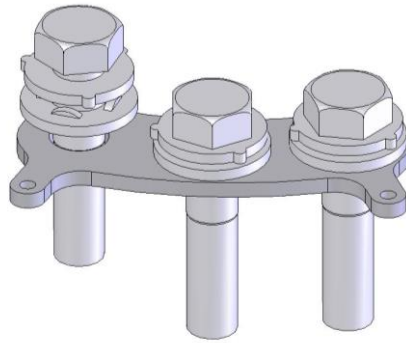
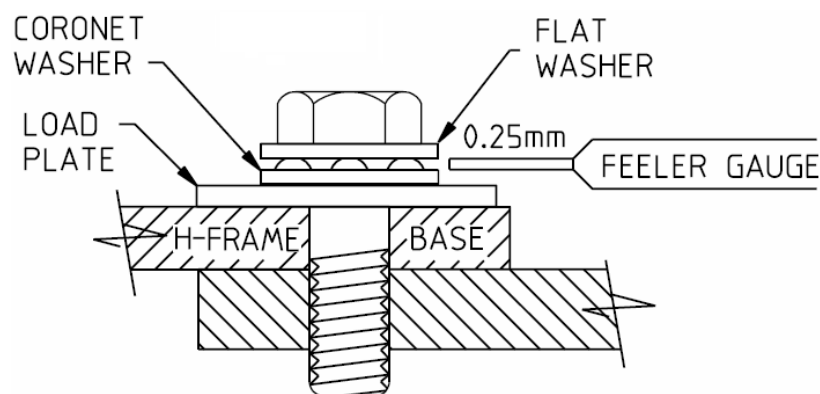

Figure 4.4.1 Coronet washer must be placed between flat washer and load plate
Figure 4.5.1 A feeler gauge must be used to confirm the correct gap size of 0.25mm.
- With the lifting slings still in place, fit the nine M16 high tensile bolts (grade 10.9) flat washers, coronet washers & load plates loosely. The coronet washer must be placed between the load plate and the flat washer with the load indicator ridges touching the flat washer as shown in figure 4.4.1 and figure 4.5.1. Note that the grade is embossed in the bolt head.
- Tighten all the M16 x 70 Grade 10.9 bolts to 100kN. This is achieved by tightening the bolts until the coronet washer load indicator gap is 0.25mm. That is, the gap between the flat washer and the flat of the coronet washer is 0.25mm. A feeler gauge must be used to confirm the correct gap size as shown in figure 4.5.1. When the gap is not uniform, the average gap distance should be used. Note: Once a coronet washer has been fully compressed it can *not* be re-used. It must be disposed of and replaced.